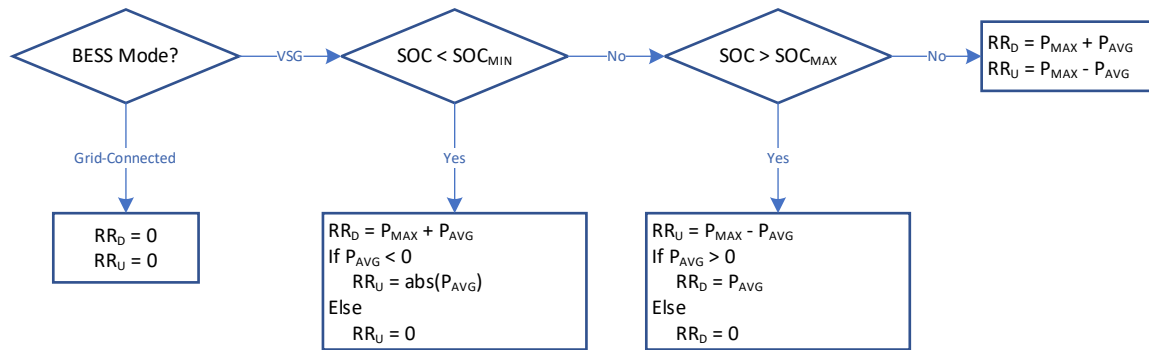

Figure 22- Regulation Reserve Calculation for BESS
- RR_D: A downwards regulating reserve is calculated continuously by the BESS model using the flowchart shown in Figure 22 if the BESS is on and connected.
- RR_U: An upwards regulating reserve is calculated continuously by the BESS model using the flowchart shown in Figure 22 if the BESS is on and connected.